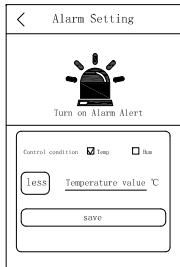

Fig. 10
a. Set the trigger condition of the sensor: press and hold the sensor ID to access alarm setting interface as shown Fig. 10.